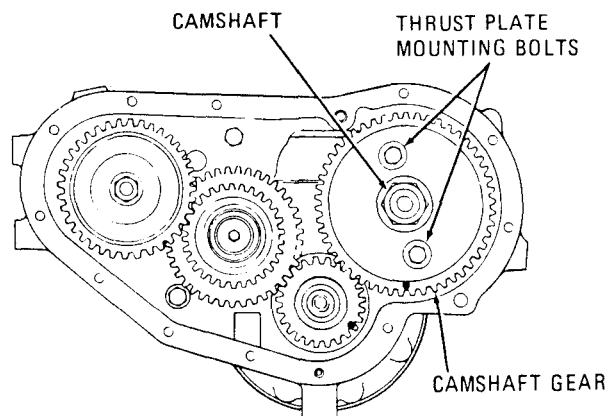

Figure 3-27. Thrust Plate Mounting Bolt Removal
i. With tappets in raised position, rotate engine crankshaft until two holes in camshaft gear expose thrust plate mounting bolts. See figure 3-27.